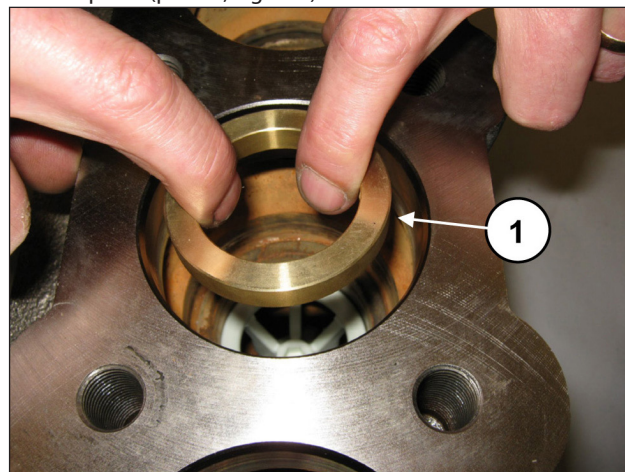
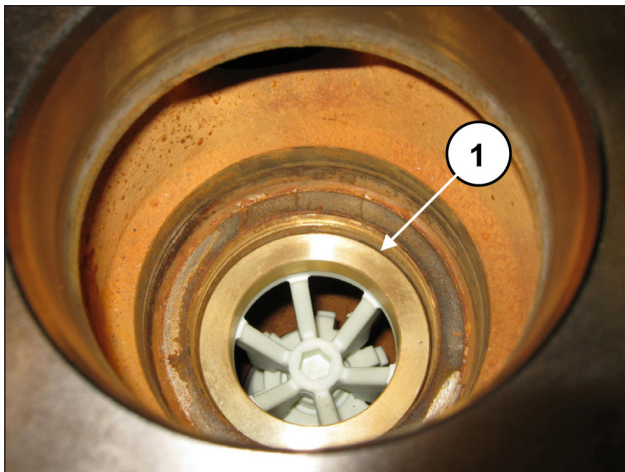

Fig. 121
Fig. 122
Insert the valve housing spacer ring (pos. ①, Fig. 121), resting on the spacer (pos. ①, Fig. 122).